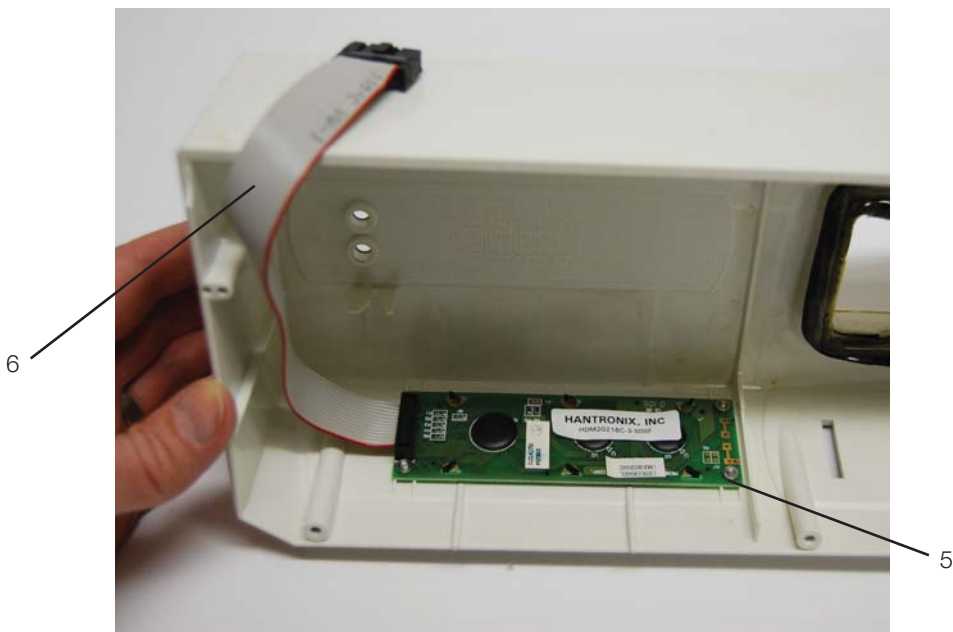

Figure 4
To remove the LCD (4), proceed as follows (see Figure 4):
1. Carefully remove the LCD overlay or integrated overlay (1) from the fascia. (See Removing and Replacing the Membrane Keypad.) Note that removing the overlay may damage the keypad. Have a replacement available in the event damage occurs.
2. Use a No. 1 Phillips screwdriver to remove the four countersunk screws (8) securing the LCD to the fascia. Retain these screws for reassembly. Each screw is held by a captive fastener (5) which is integral to the LCD assembly. In earlier units each screw is held with a nut and washer.
3. The keypad cable (3) and the LCD cable (6) may be secured together with double sided adhesive tape. Carefully separate the harnesses and remove the LCD.
To replace the LCD (10), proceed as follows (see Figure 4):
1. Align the captive fasteners on the LCD with the four clearance holes in the fascia (2) and reinstall the LCD using the four countersunk screws (8) retained from disassembly. The LCD cable and the keypad cable are on the left side of the cover.
2. Carefully reinstall the appropriate overlay (1) on to the fascia. See Membrane Keypad Removal and Replacement. NOTE: When applying pressure to the membrane to ensure the adhesive bonds to the fascia, do not press down in the middle of the LCD assembly. Apply pressure in the areas immediately adjacent the mounting holes only.
4. Connect the keypad connector to controller board (4).
5. Connect the LCD connector to controller board (7).